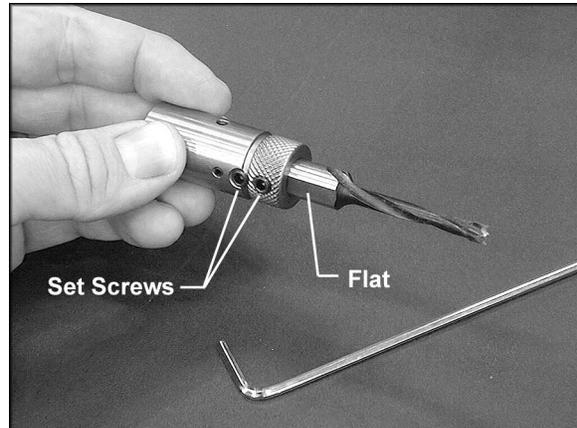

Figure 3
1. Make sure the two set screws (Figure 3) on the chuck are backed out far enough for the bit to be inserted. Push the shank of the boring bit into the knurled end of the chuck. Make sure the flat of the boring bit shank is toward the set screws, as shown in Figure 3.
2. Tighten both set screws on the chuck with a 2.5 mm hex wrench, shown in Figure 3.